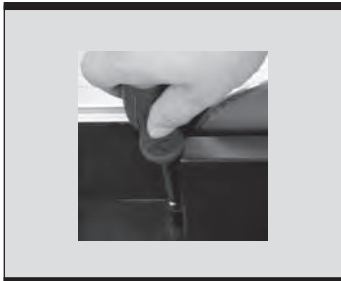

Fig 4
- Insert the blade lower guard with the chain into the notches then tighten the screw (Fig 4).